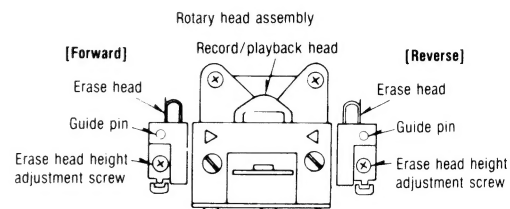

Fig. 2
1. Turn the erase head height adjustment screws on the rotary head assembly counterclockwise until the upper end face of the erase heads is aligned on the same plane as the top face of their respective guide pins. (Refer to figs. 2 and 3.)